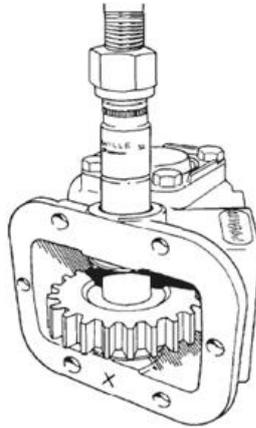

Figure 4 Removing Idler Shaft
- f. Install the PTO housing in a press and remove the idler shaft using the press and a suitable adapter (Figure 4).